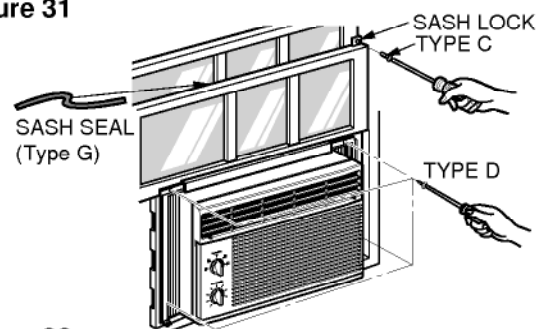

Figure 32
Extend the guide panels to fill the window opening using 4 screws (TYPE D) to secure them, as shown in Figure 32.
- Cut the sash seal to the window width. Stuff the sash seal between the glass and the window to prevent air and insects from getting into the room, as shown in Figure 32.
- Fasten the sash lock using a TYPE D screw, as shown in Figure 32.